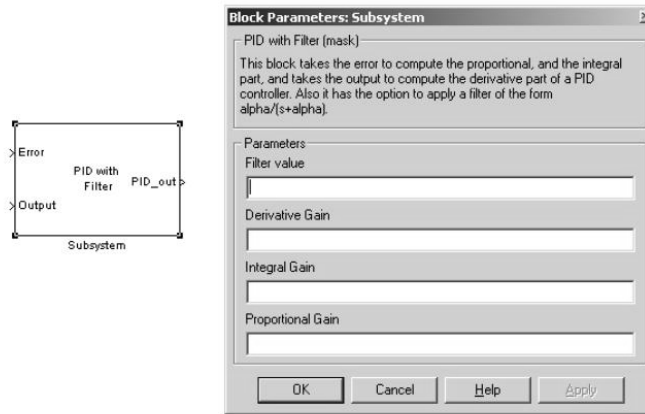

Figure 3: PID controller with derivative filtering subsystem.
- When the user double clicks this block he/she should be able to change the P, I, and D gains and the value α of the filter (see the prelab). This subsystem should be like the one in Figure 3.